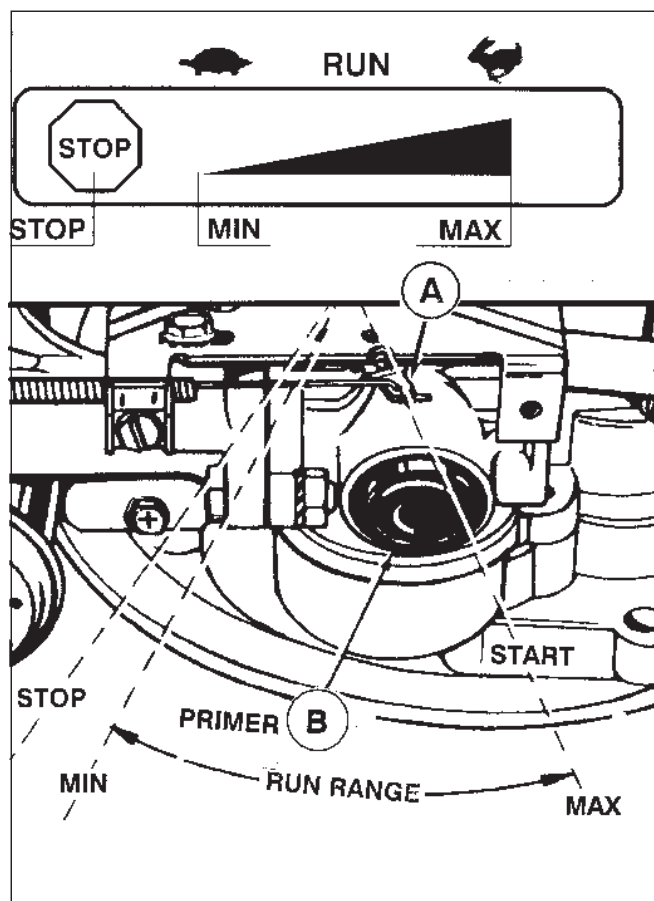

Fig. 2-1
- Move control lever (Fig 2-1) to "FAST" or "START" (see equipment manufacturer's instructions).
- Push primer (Fig 2-1) three (3) times. Wait about two (2) seconds between each push. In cold weather (55F/ 13°C or below) push five (5) times.
a - Push primer (Fig 2.1) three (3) times. Wait about two (2) seconds between each push. In cold weather (55°F/13°C or below) push five (5) times.